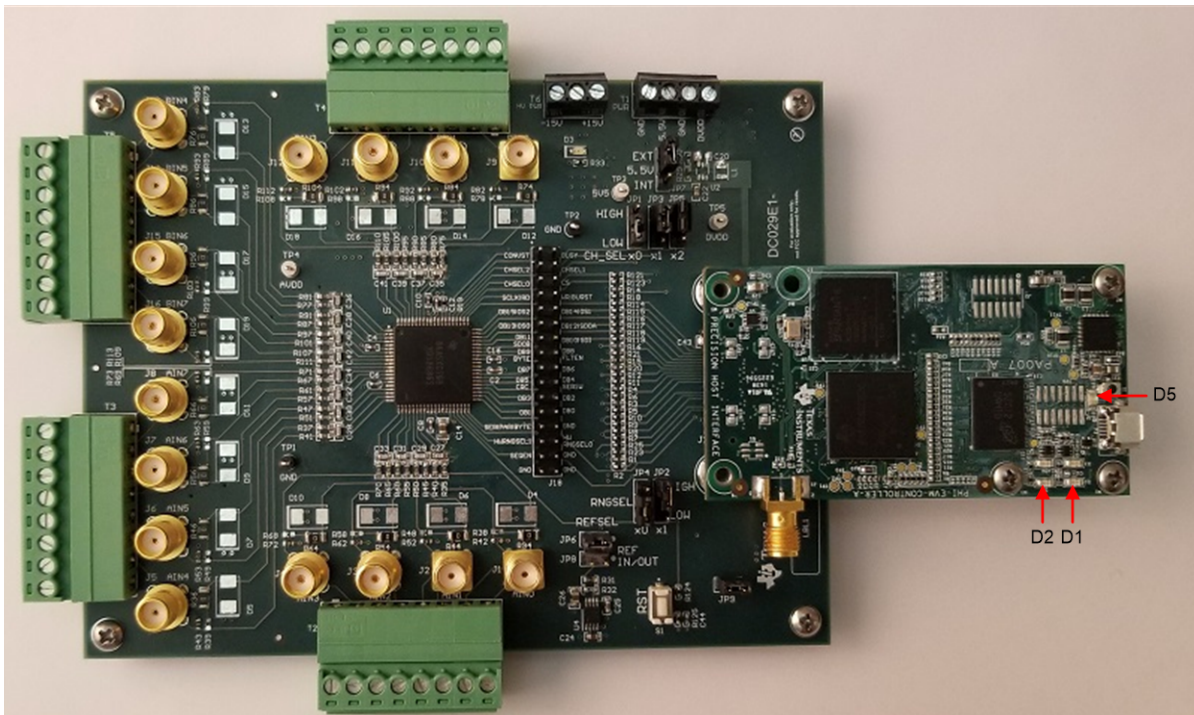

Figure 10. ADS8686SEVM-PDK Hardware Setup and LED Indicators
1. Connect the ADS8686SEVM to the PHI. Install the two screws as indicated in Figure 10.
- b. LEDs D1 and D2 on the PHI starts blinking to indicate that the PHI is booted up and communicating with the PC. Figure 10 shows the resulting LED indicators.